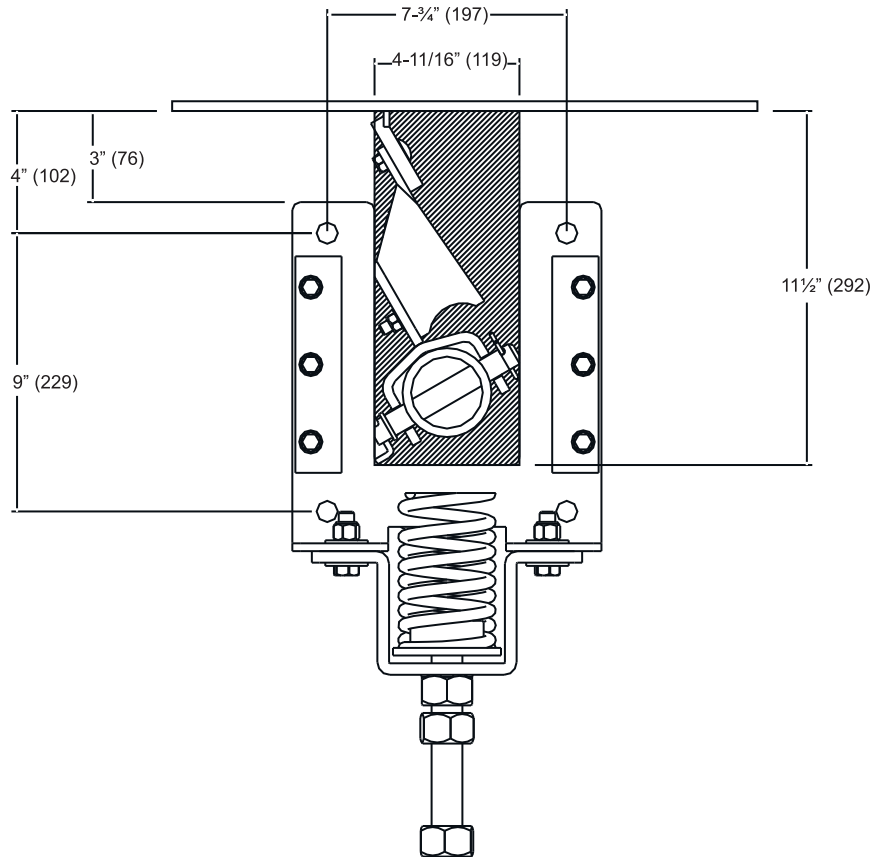

Figure 4. Mounting Bracket Hole Dimensions
The Mounting Bracket should be attached to the chute wall or conveyor structure using the four mounting holes and $\frac{1}{2}$ -13 UNC x 2 $\frac{1}{2}$ inch hex head bolts. See *Figure 4* for mounting hole dimensions.
- To determine the desired vertical location of the Mounting Brackets. Locate the Mounting Bracket so that the bracket mounting holes are located below the bottom edge of the belt, at the dimensions shown in *Figure 4*.
- If the Razor-Back MDX is to be installed on a conveyor with an enclosed chute, it may require that slots and holes be cut to mount the cleaner. If required, mark and cut slots of the chute side wall to allow the Mounting Tube to pass. The required slot size/location and hole size/location are shown in *Figure 4*.